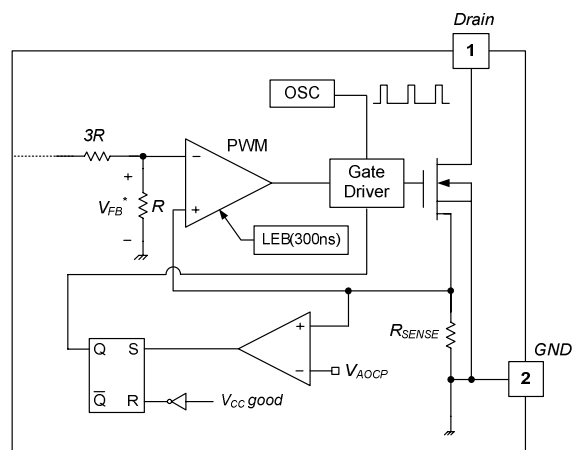

Figure 21. Abnormal Over-Current Protection
4.2 Abnormal Over-Current Protection (AOCP): When the secondary rectifier diodes or the transformer pins are shorted, a steep current with extremely high di/dt can flow through the SenseFET during the minimum turn-on time. Even though the FSGM0765R has overload protection, it is not enough to protect the FSGM0765R in that abnormal case; since severe current stress is imposed on the SenseFET until OLP is triggered. The FSGM0765R internal AOCP circuit is shown in Figure 21. When the gate turn-on signal is applied to the power SenseFET, the AOCP block is enabled and monitors the current through the sensing resistor. The voltage across the resistor is compared with a preset AOCP level. If the sensing resistor voltage is greater than the AOCP level, the set signal is applied to the S-R latch, resulting in the shutdown of the SMPS.